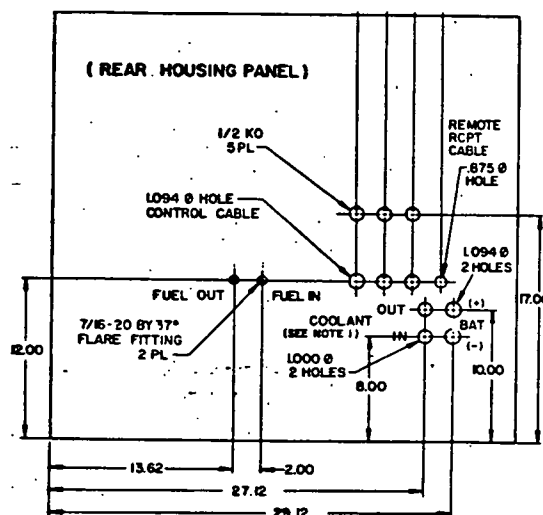

FIGURE 15. Compartment Rear Housing Panel
1. Water-tight 3/4 inch metal strain relief connectors (supplied by customer) should be installed in the two 1-1/8 inch diameter holes in the lower right hand corner of the rear(back) panel at this time. See Figure 15. Battery cables are installed through these connectors later but for ease of installation, the connectors should be installed prior to reassembling the compartment housing.
6. Install a 1/2 inch strain relief connector in the 7/8 inch diameter hole opposite the remote control cable (same row of knockouts) in the rear panel of the genset housing as shown in Figures 15 and 18.
7. Route the 14 gauge, 3-conductor AC supply cable through the 1/2 inch strain relief connector in the rear panel of the genset housing as shown in Figures 15 and 18.